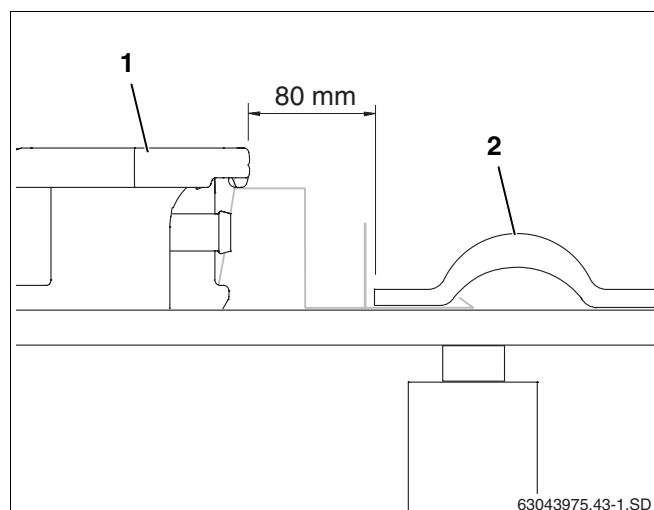

Fig. 22 Laying first collector and screwing in place
- ▶ Allow first collector (Fig. 22, **Item 1**) to slide into place in the anti-slip protection device and position 80 mm from the outer (cut if necessary) pan tile (Fig. 22, **Item 2**).